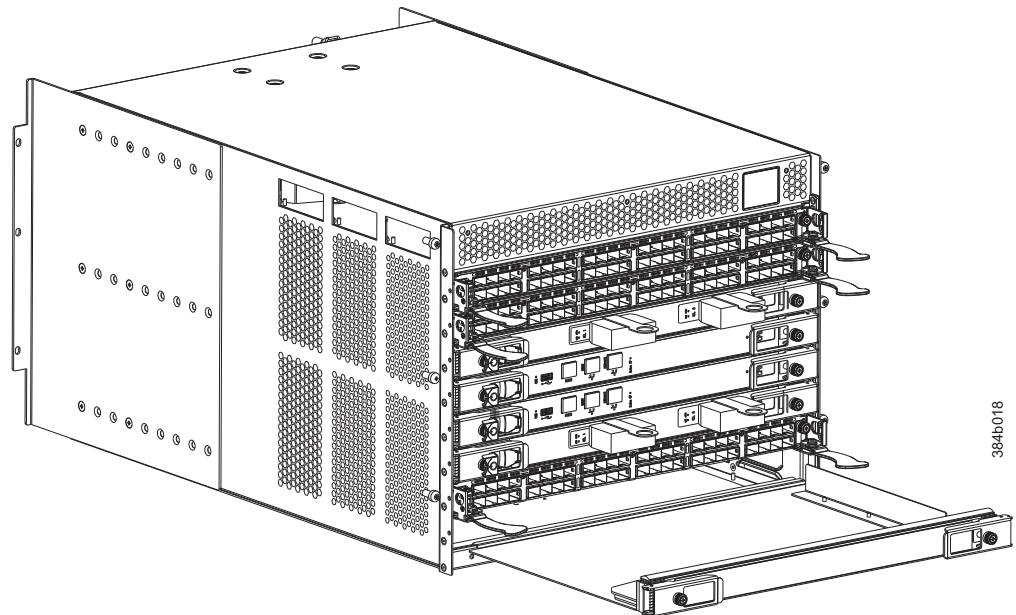

Figure 34. Filler panel removal and installation
3. Pull the filler panel out of the chassis, using the handles on the filler panel (Figure 34).
1. Orient the filler panel in front of the empty slot (see Figure 34).